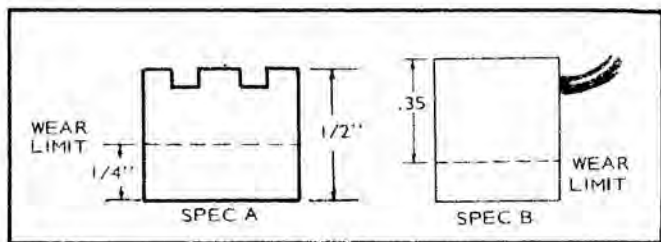

FIGURE 20. BRUSH WEAR LIMIT
6. **Brush Inspection:** If brushes are worn shorter than 1/4 inch, replace them. Check to see that brushes move smoothly in the brush holders. See Figure 20.